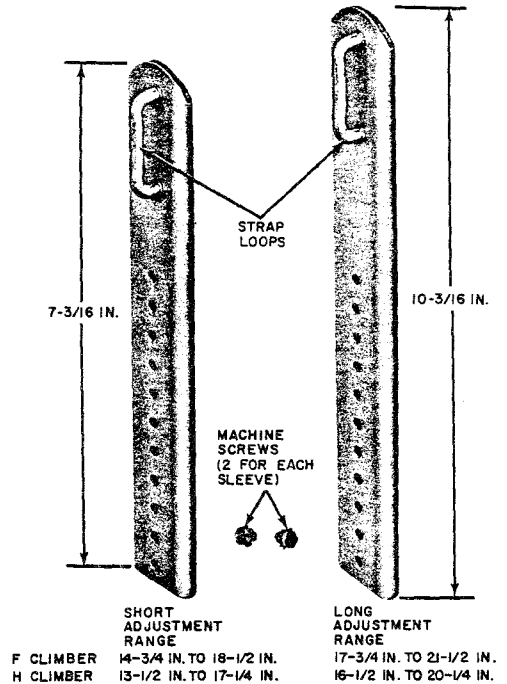

Fig. 4—Sleeves for Adjustable Climbers
3.08 The sleeves used on adjustable climbers are designed to fit snugly over the shank of the leg irons and to be securely locked in the desired position by machine screws. The sleeves are available in two lengths and can be adjusted in increments of 1/4 inch. Figure 4 illustrates the sleeves, the lengths available, and the adjustment range of each sleeve.
4.01 Determine the correct sleeve to use by measuring the distance from the lower edge of the projecting kneebone to the underside of the shoe at the arch as shown in Fig. 9 and subtract 1/2 inch from this length. Select the climber sleeve that covers this range (paragraph 3.08, Fig. 4). When ready to assemble the climber for use, proceed as follows: